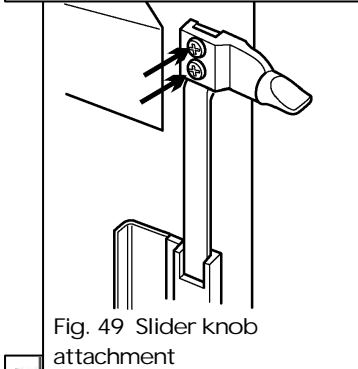

Fig. 49 Slider knob attachment
13.6.2 Detach the slider knob from the slider bar (Colourway & Homestyle models – detach from the extension bracket). See figure 49.